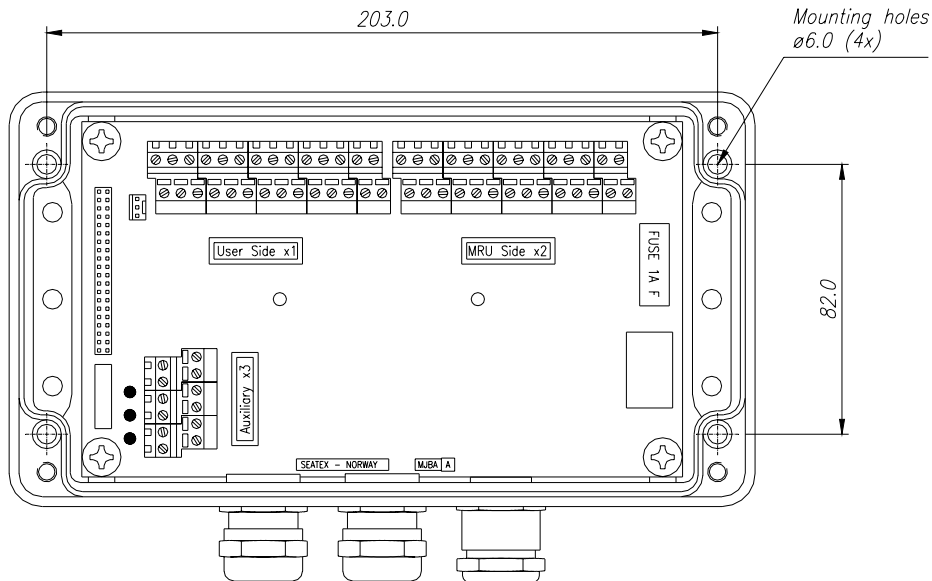

Figure 8 Junction box mounting
9. Mount the junction box on the wall in a suitable location within the length of the 3-metre MRU-E-CS1 cable, as shown in Figure 8. The screws for mounting the junction box should be secured with washers or self-locking nuts.